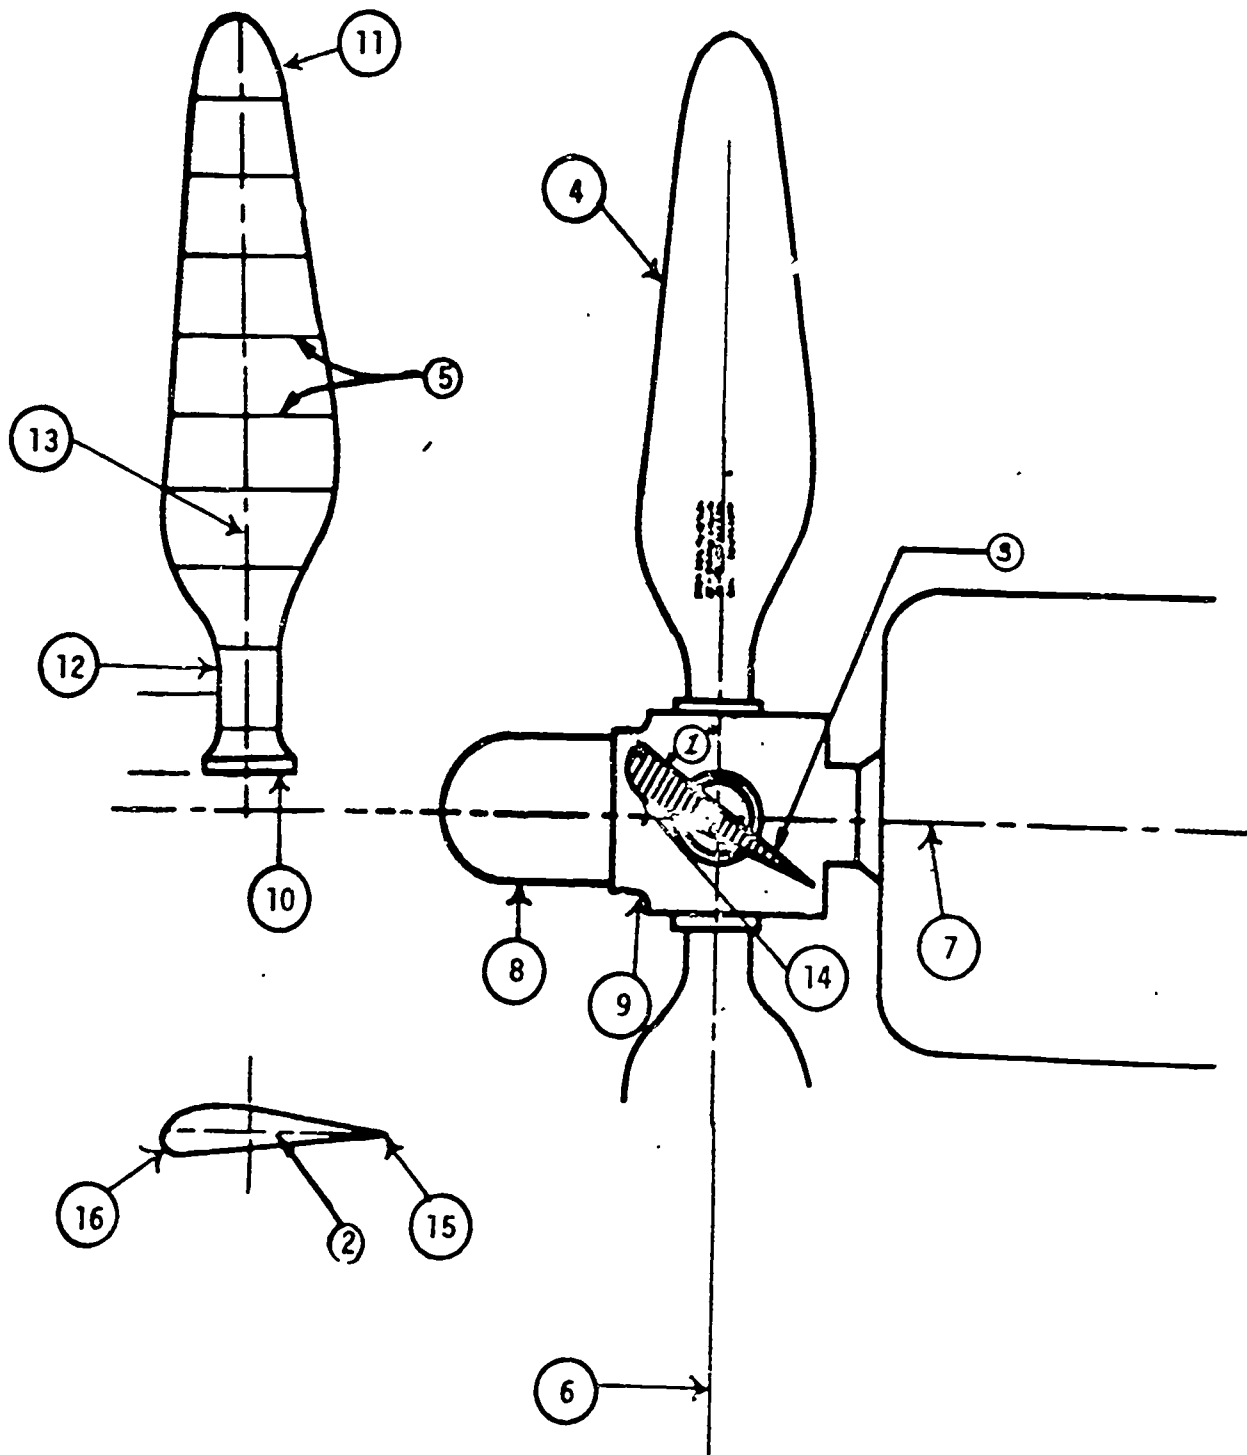

Figure 1.
1. Using figure 1, match the circled numbers on the drawing with the correct name listed below.
2. Using figure 1, match the circled numbers on the drawing with the correct name listed below.